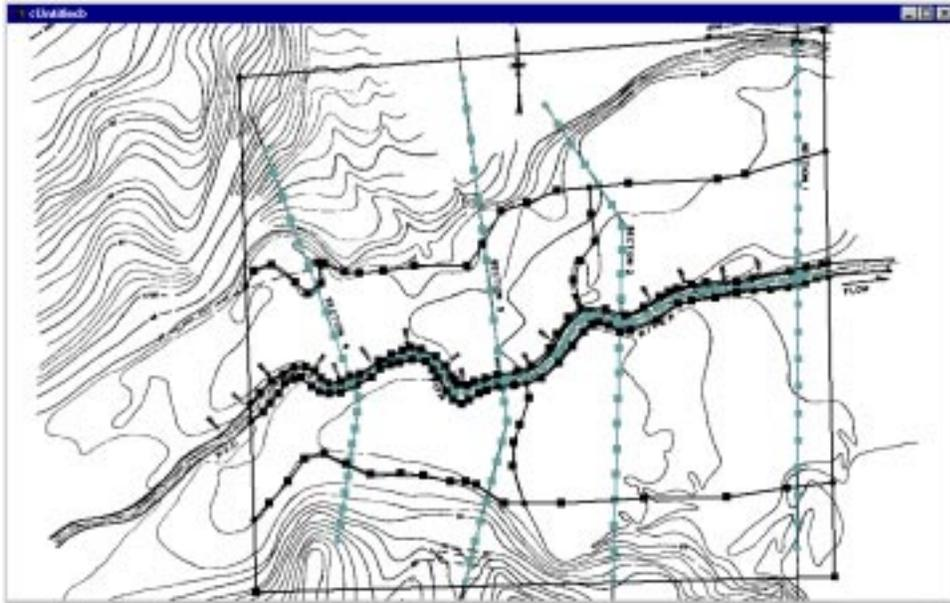

Figure 15-4 The land area boundaries.
3. Create arcs to separate the different land types. Outline material sections as shown in Figure 15-4.